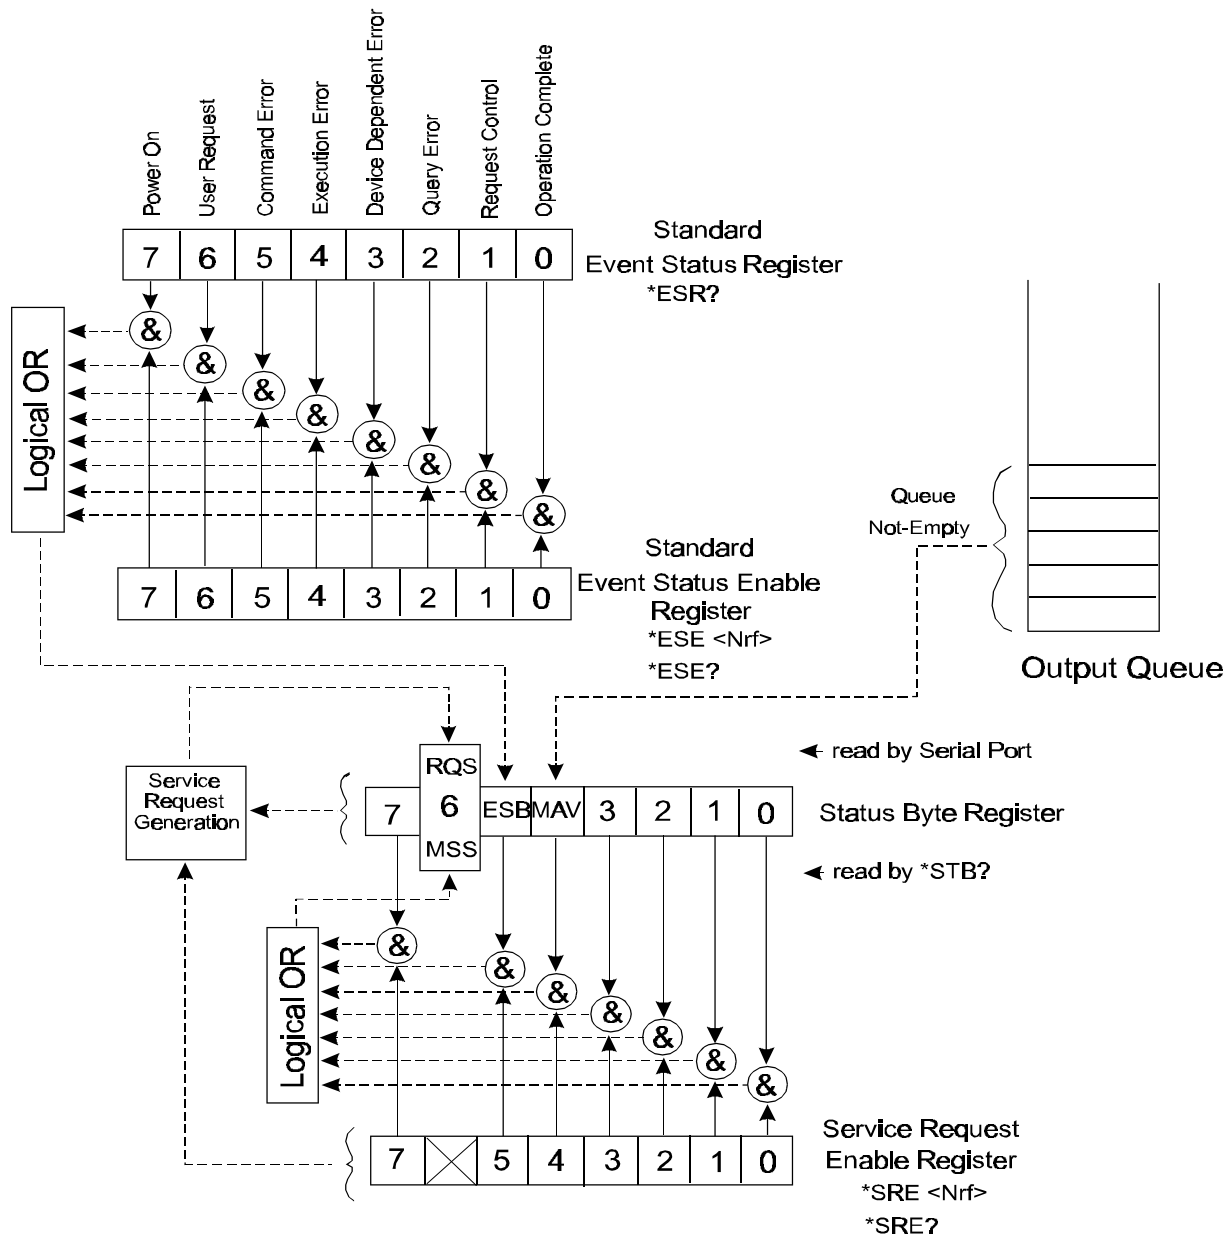

Figure 3-1 IEEE-488.2 Status Reporting Model
- 3.14.5 ***ESE <NRf>** Program the mask for the Standard Event Status Register. <NRf> is in the range of 0 to 255. See **Figure 3-1** for the bit value definition.
- 3.14.7 ***ESR?** Query the Standard Event Status Register. The response will be a base 10 number from 0 to 255 (see **Figure 3-1**). The Active bits are: Power On, User Request, Command Error, Execution Error, Query Error, and Operation Complete.
- 3.14.8 ***SRE <NRf>** Program the mask for the Status Request Enable Register. <NRf> is in the range of 0 to 255. See **Figure 3-1** for the bit value definition.
- 3.14.9 ***STB?** Query the Status Byte Register. The response will be a base 10 number from 0 to 255 (see **Figure 3-1**). The Active Bits are: MSS/RQS, ESB, MAV, and DDSB. The MSS/RQS, ESB, and DDSB bits are active only if their corresponding masks are enabled.
The IEEE-488.2 Specification requires the implementation of the Status Data Structures. These are shown in **Figure 3-1** which is a replica of **Figure 11-8** in the IEEE-488.2 1987 Specification.